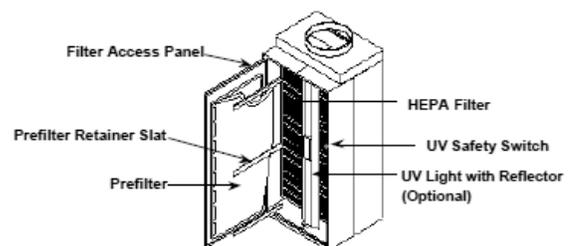

Figure 6: Filter Access Panel with Prefilter
5. Remove the three (3) Prefilter Retainer Slats by shifting them through the cutouts in the prefilter screen (Figure 6).